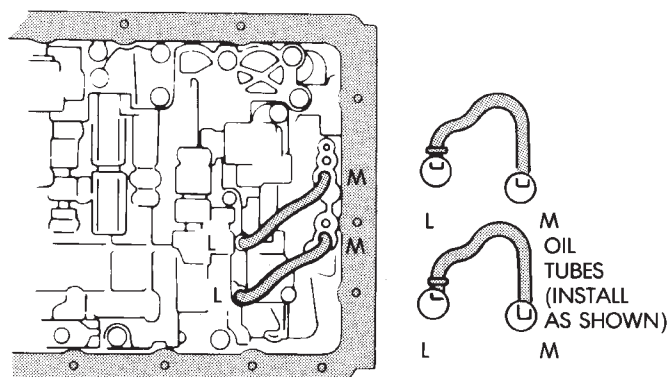

Fig. 62 Installing Valve Body Oil Tubes
(82) Install valve body oil tubes (Fig. 62). Tap tubes into place with a plastic mallet. Be sure the flanged tube ends and straight tube ends are installed as shown.
(83) Install new gaskets on oil screen and install screen on valve body. Tighten screen bolts to 10 N•m (7 ft. lbs.) torque.
(84) Install magnet in oil pan. Be sure magnet does not interfere with valve body oil tubes.
(85) Apply Mopar or Loctite 599 to sealing surface of oil pan. Sealer bead should be at least 3 mm (1/8 in.) wide. Install pan on case and tighten pan bolts to 7 N•m (65 in. lbs.) torque.